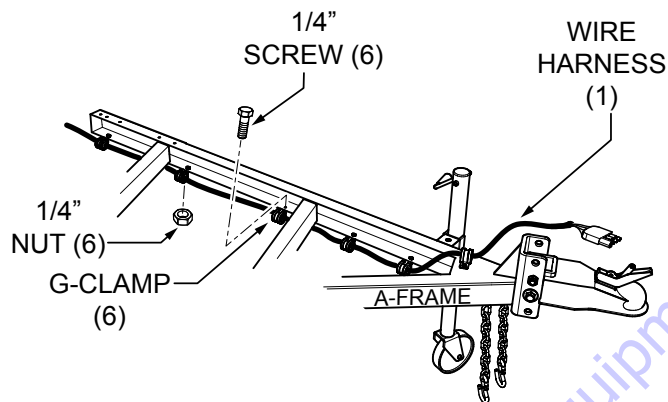

Figure 7. Wiring and G-Clamp Installation
3. Route the loose portion of the wire harness through the hole at the bottom (Figure 7) of the air compressor frame.